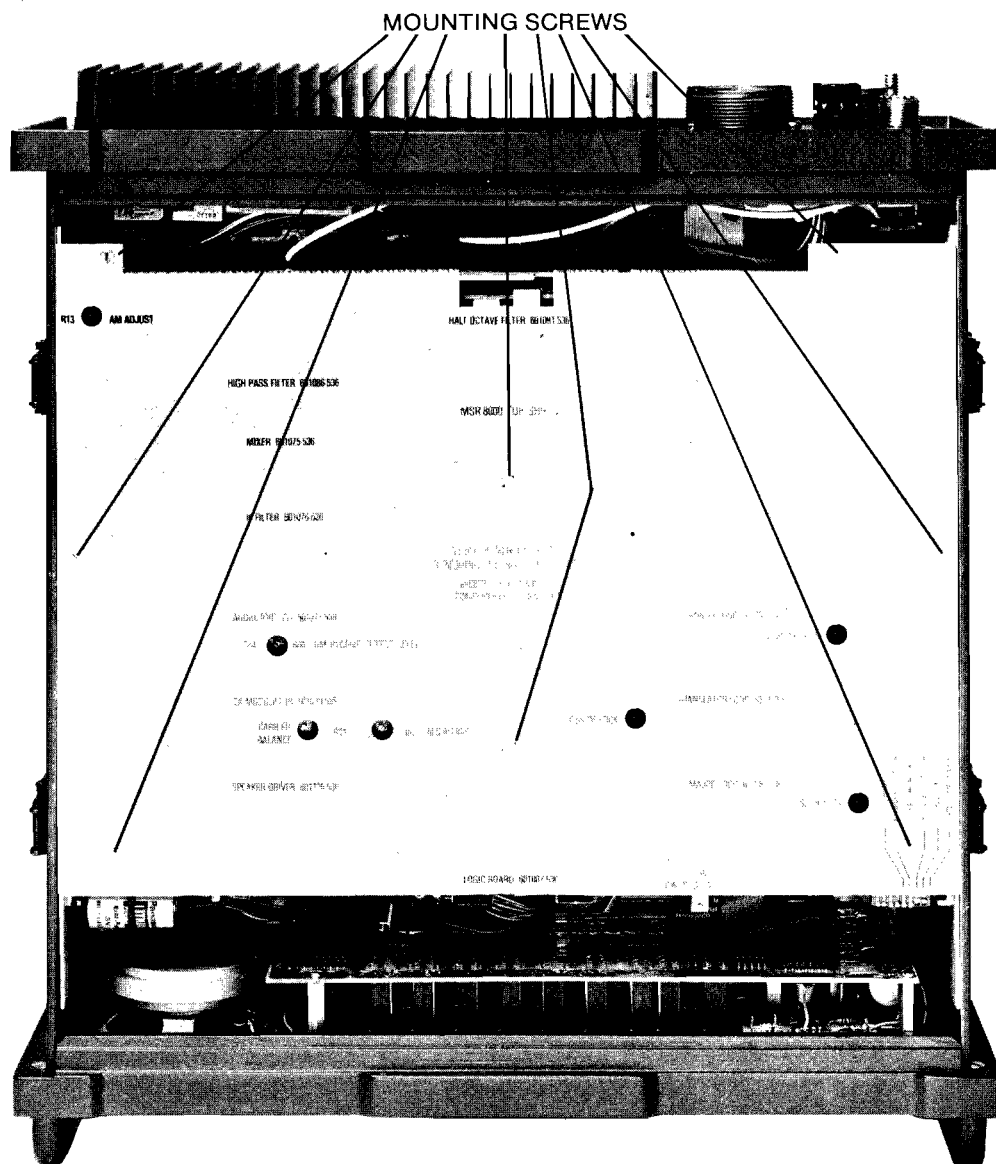

Figure 5.3 Inner Cover Mounting Screws
The top inner cover can be removed by first removing the eight (8) mounting screws that secure the inner cover to the chassis. See Figure 5.3.